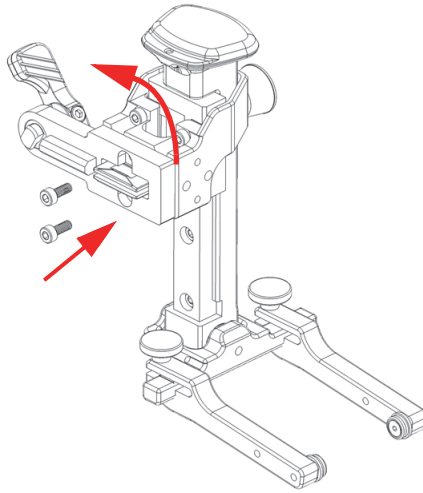

Figure 2-21 Flipping of the SLA bracket
2. Rotate the SLA bracket 180 degrees (Figure 2-21 on page 52).
3. Put the two screws back into place (Figure 2-21 on page 52).